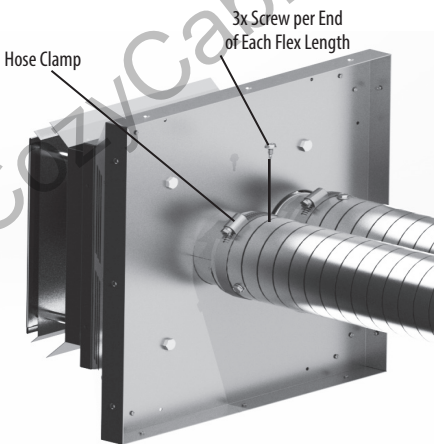

Figure 5
6. Attach the flex to the termination using the hose clamps **(Fig.5)**. The flex length with the red tape is to be used for the exhaust. The small screws that are provided with the hose clamps can be used for extra security when attaching the flex. Equally space 3 screws around the diameter at each end of the flex lengths.